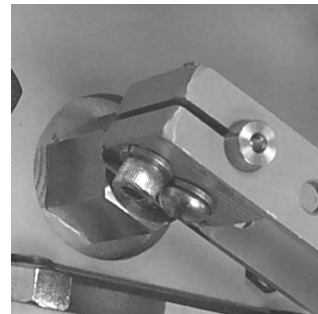

Figure 3 – Lever and rotary shaft connection.
4. The lever is attached to the rotary shaft with a clamping screw and a set screw. Ref. Figure 3. Remove both of these screws and the lever assembly.